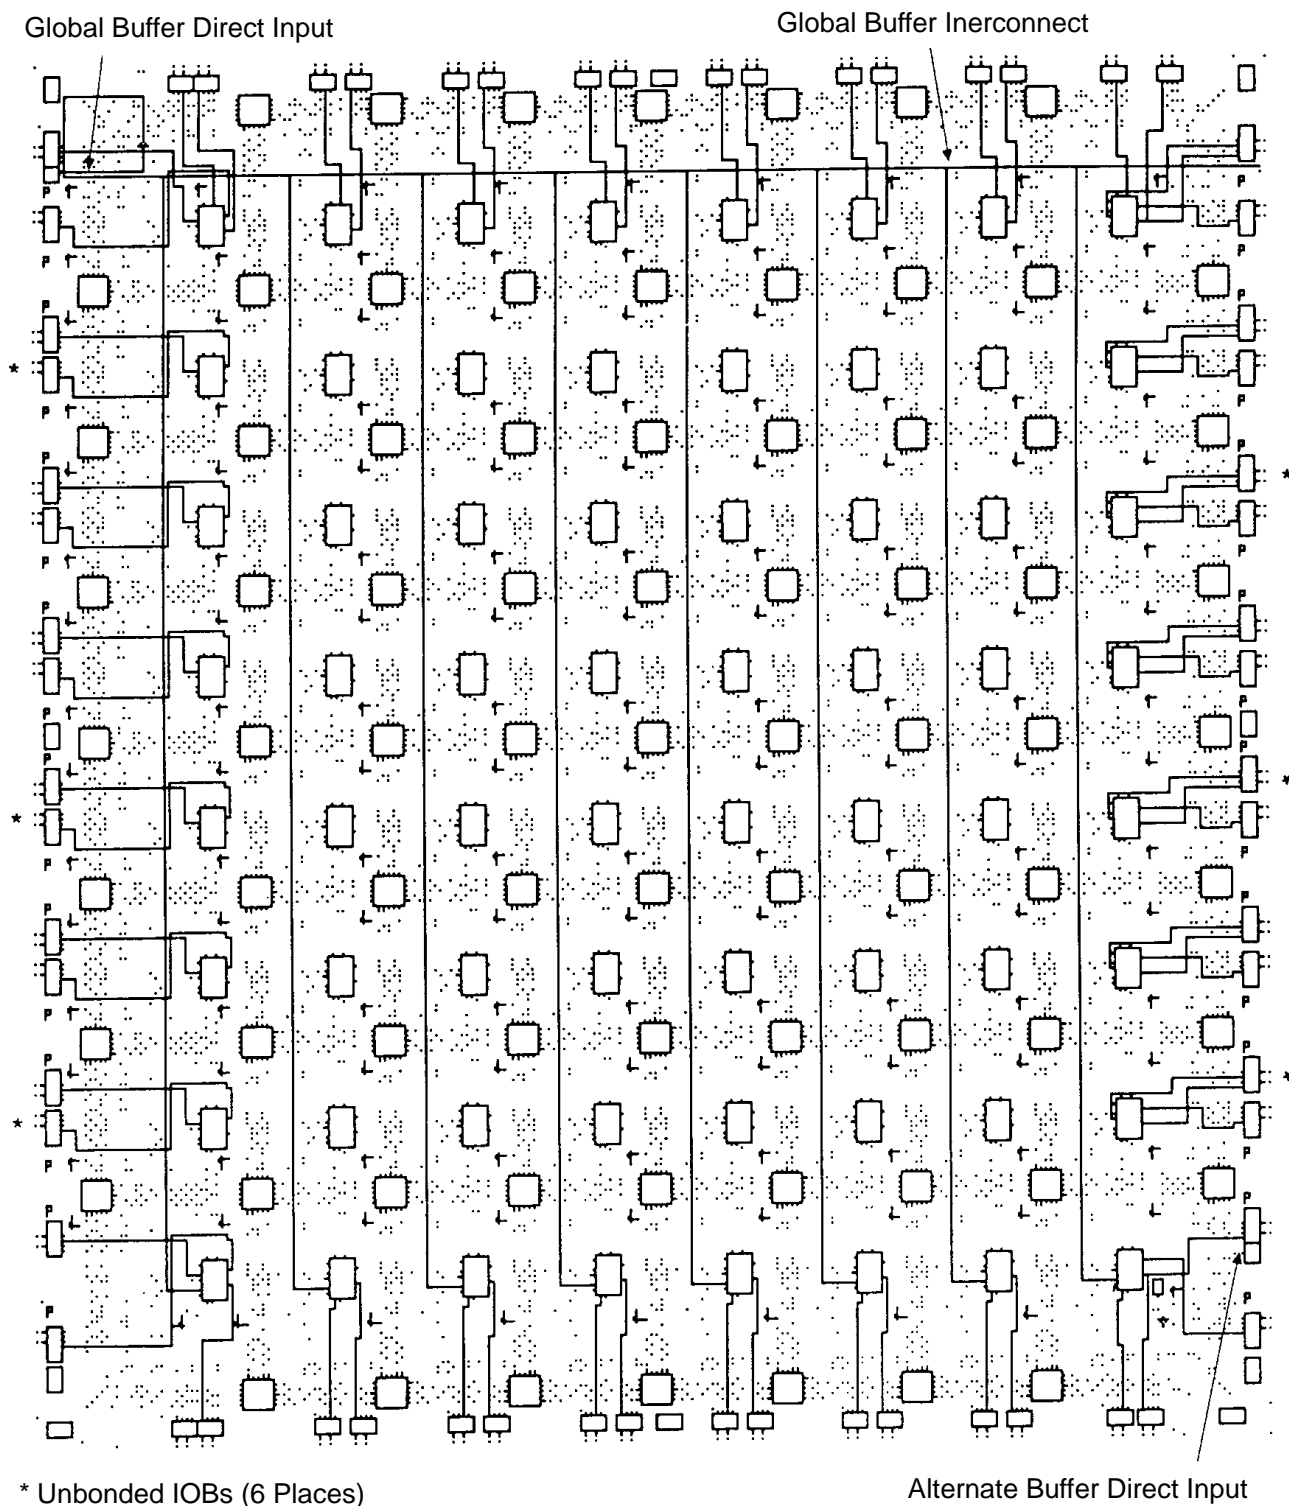

**Figure 12: CLB X and Y Outputs.**
Direct interconnect, shown in Figure 12, provides the most efficient implementation of networks between adjacent CLBs or I/O Blocks. Signals routed from block to block using the direct interconnect exhibit minimum interconnect propagation and use no general interconnect resources. For each CLB, the X output may be connected directly to the B input of the CLB immediately to its right and to the C input of the CLB to its left. The Y output can use direct interconnect to drive the D input of the block immediately above and the A input of the block below. Direct interconnect should be used to maximize the speed of high-performance portions of logic. Where logic blocks are adjacent to IOBs, direct connect is provided alternately to the IOB inputs (I) and outputs (O) on all four edges of the die. The right edge provides additional direct connects from CLB outputs to adjacent IOBs. Direct interconnections of IOBs with CLBs are shown in Figure 13.